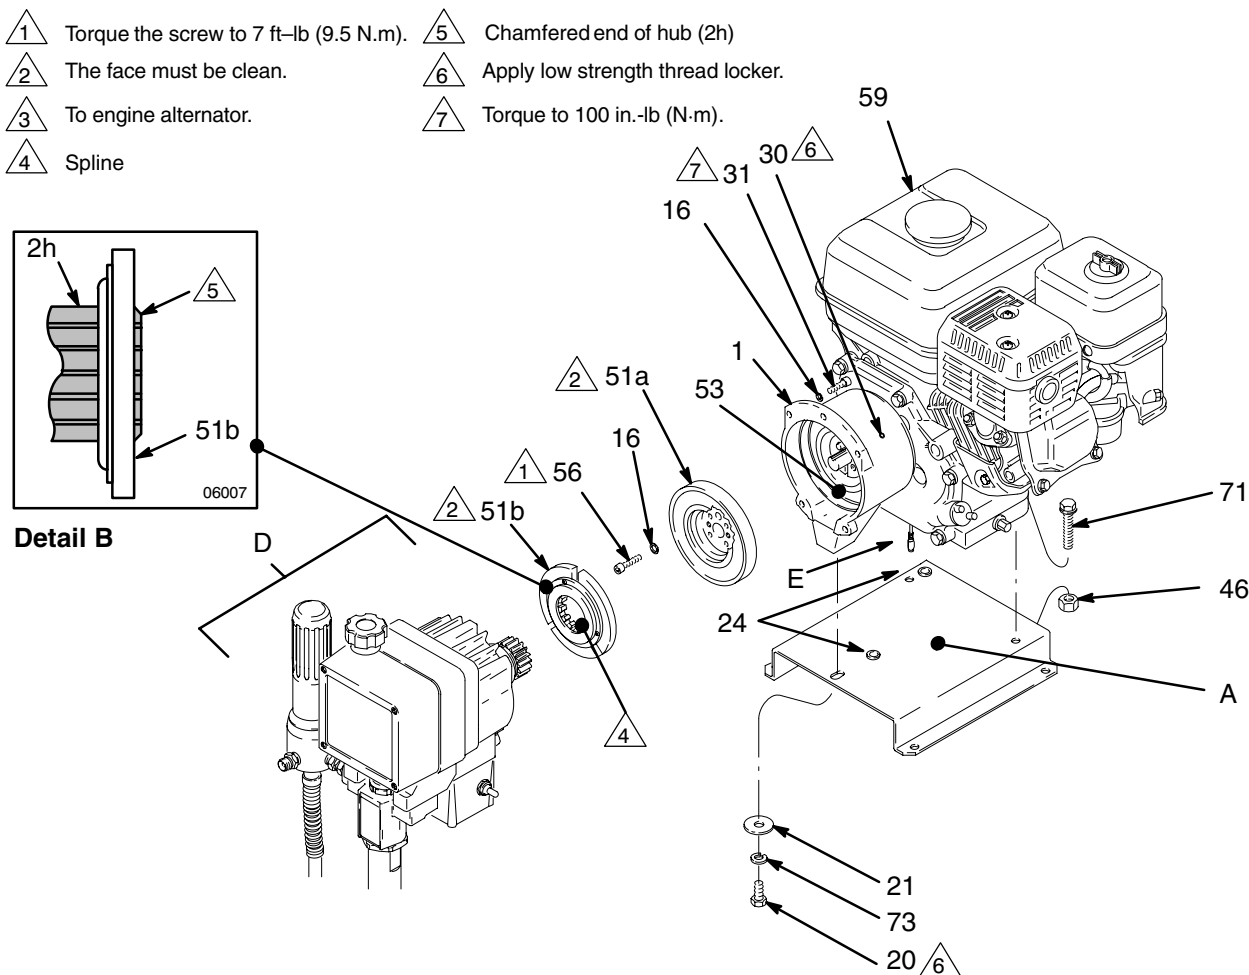

Fig. 25
6. Be sure the face of the **rotor (51a)** and the clamp (55) are free of all burrs. Install the rotor, lock-washers (16) and capscrews (56). Torque the capscrews to 7 ft-lb (9.5 N.m). See Fig. 25.
7. After installing the rotor (51a) the air gap must be adjusted between the rotor and the field (53). Tighten the setscrews (30) oppositely and evenly. Pull the engine recoil rope to assure that the engine turns freely, and there is no contact between the rotor and the field. If there is contact, loosen the setscrews and reposition the field.
8. Clean the face of the **armature (51b)**. With the flat side of the armature facing the rotor (51a), slide the armature onto the hub (2h) in the drive/pinion assembly (D) just until the chamfered end of the hub (2h) protrudes through the armature. See Detail B, Fig. 25. There will be significant resistance. Attach the cardboard spacer, supplied with the clutch kit, to the face of the armature. Bend tabs over outside diameter of armature.
9. Assemble the **drive assembly (D)** to the clutch housing (1), using the capscrews (31) and lock-washers (16). See Fig. 25.